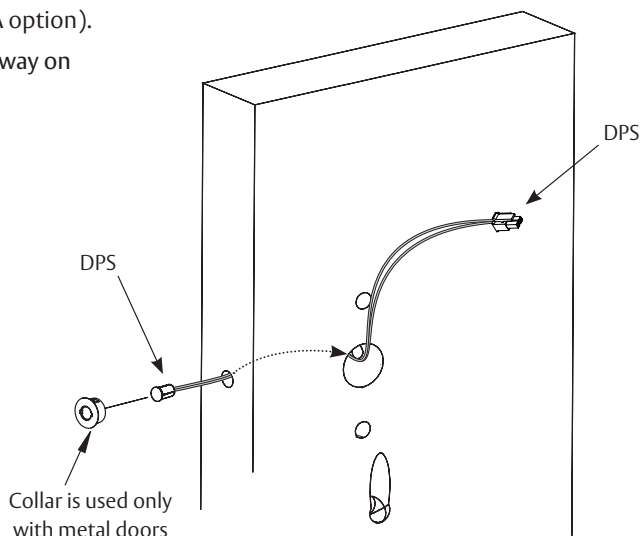

Fig. 3
- b. Insert connector end of DPS through raceway on latch edge of door. (Fig. 3)